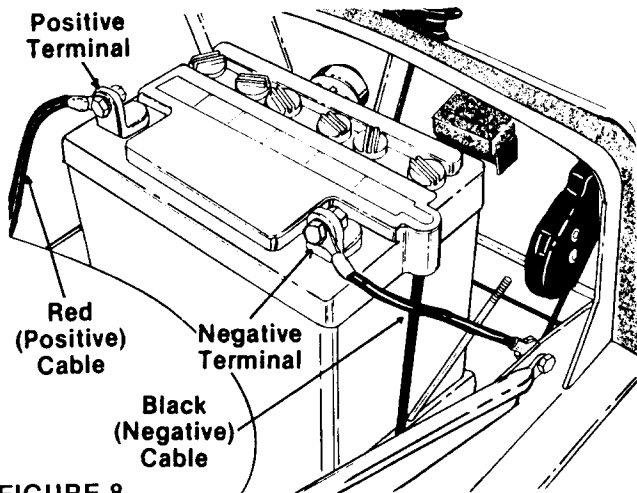
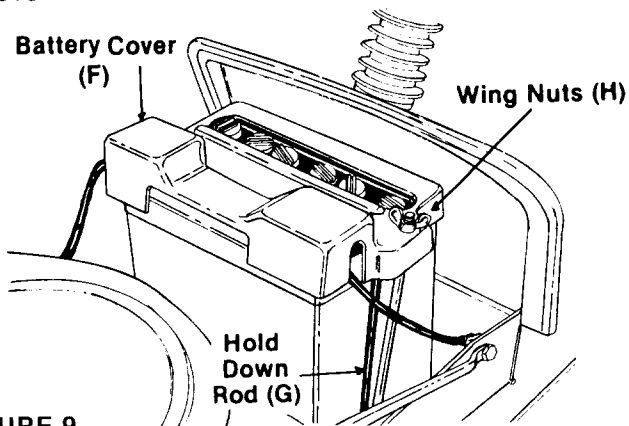

FIGURE 8
FIGURE 9
2. Place the battery in the lawn tractor so that the positive terminal is facing the right side of the unit. See figure 8.
3. Place the positive (heavy red) cable on the positive terminal. Secure with carriage bolt (N), lockwasher (P) and hex nut (O).
4. Place the negative (heavy black) cable on the negative terminal. Secure with carriage bolt (N), lockwasher (P) and hex nut (O).
5. Hook one hold down rod (G) into the edge of the battery bracket beside the battery. See figure 8. Place the battery cover (F) in position over the hold down rod. Secure with wing nut (H). Attach other hold down rod to the other side of battery cover in the same manner. See figure 9.